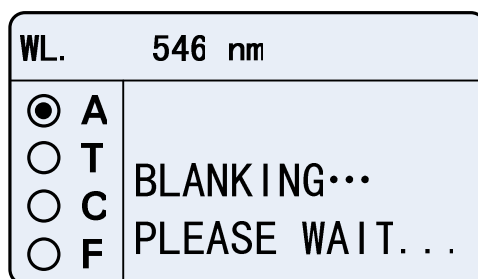

Fig. 4-2
3) Pull the Reference in the light path, press  to set 100% T (Fig.4-2);